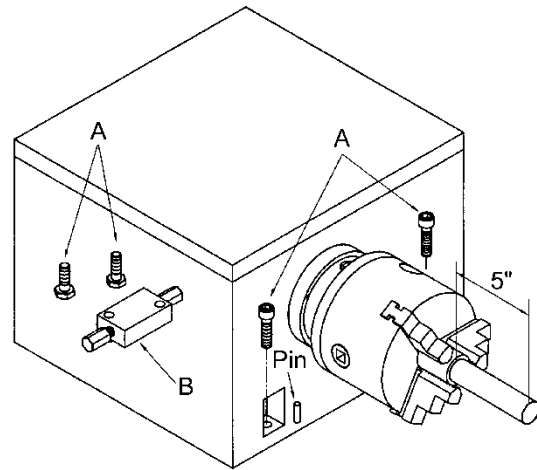

Figure 25
6. If the measurements are not the same and adjustment is required, loosen hex socket cap screws (A, Fig. 25) which hold the headstock to the bed. **Do not** loosen completely; some drag should remain.
7. Adjust two screw nuts (B, Fig. 25) located on the endgear side of the headstock. Loosen one and tighten the other. Make another cut. Keep adjusting screw nuts after each cut until the bar stock measurements are the same. Tighten all headstock screws.